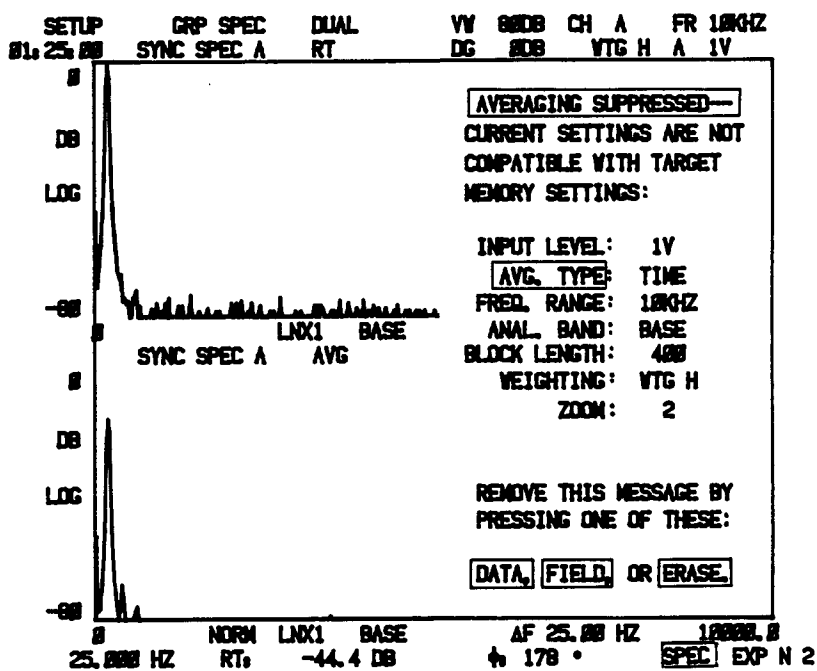

Figure 1-13. Average Error Message
Press AVERAGE START and observe both traces. The variations in amplitude are caused by non-synchronous data acquisitions. Press SCROLL UP to return to the Input Memory. Display Setup Page 1 and select TRIGGER MODE menu item 3, INT REP TRIG. Press the CURSOR RESET and position the Reverse Video Control Field on GRP TIME. SCROLL UP to select the Spectrum group. Press the AVERAGE STOP, AVG locator and SCROLL DOWN buttons to select spectrum-data averaging. Press AVERAGE START and note the message displayed on the right side of the screen as shown in Figure 1-13. If new data to be entered into the Average Memory are not compatible with data already acquired, this message will appear. The conflict will be highlighted with reverse video.